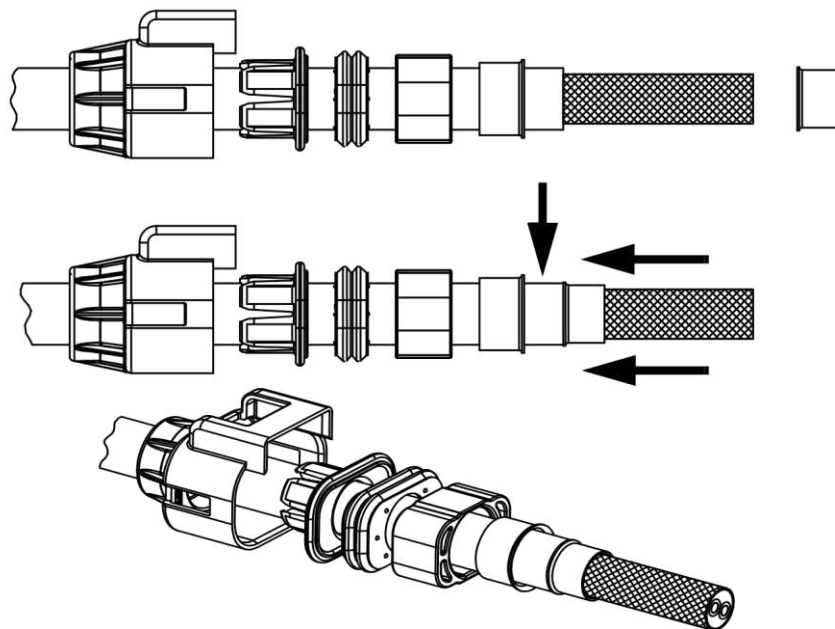

Figure 5
- Insert the inner ferrule over the cable shield until it stops against the outer jacket as shown in Figure 5.